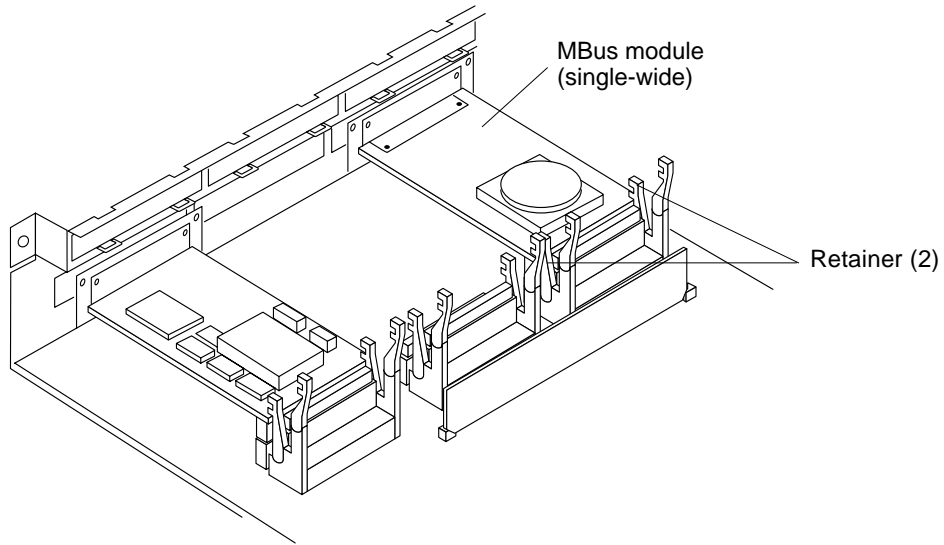

FIGURE 11-1 MBus Module Retainers
3. Unlock both MBus module retainers (FIGURE 11-1).